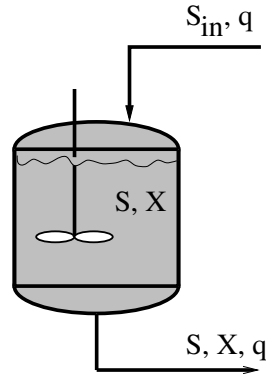

Figure 5.1 The tank reactor in Problem 5.4.
- 5.4** In a continuous well-stirred biological tank reactor, see Figure 5.1, biomass is growing following Monod kinetics,